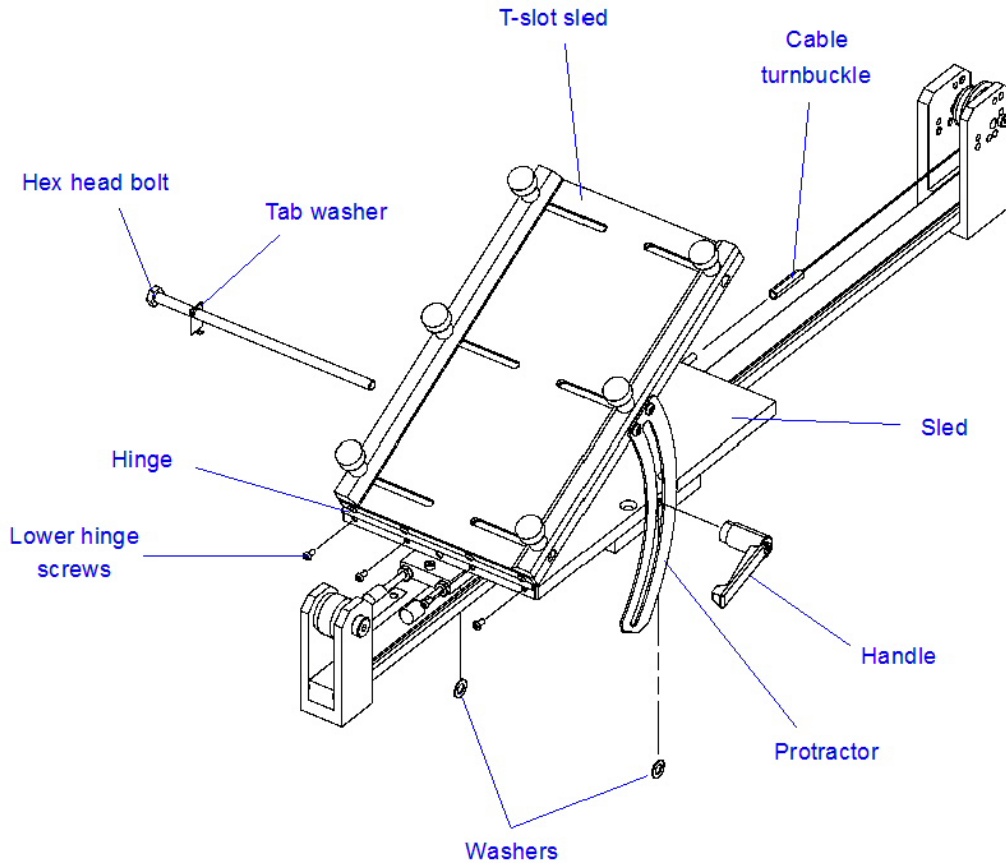

Figure 9. Reversing the T-slot Sled for the Variable Angle Fixture
2. Remove the four lower screws on the hinge that connects the T-slot sled to the sled, as shown in Figure 9 on page 37.